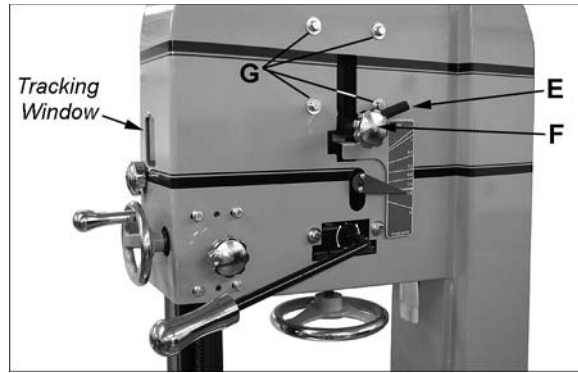

Figure 26
Refer to Figure 26.
4. Set the quick tension lever initially to "Partial Tension-Idle/Tracking" position, as shown in Figure 26.
**IMPORTANT:** Make tracking adjustments with knob (F, Figure 26) while the blade is at full tension. DO NOT use screws (G, Figure 26); these were used by the manufacturer for wheel alignment and should NOT be used for tracking.
6. If the blade tends to move toward the edge of the wheel, loosen locking lever (E, Figure 26) and slightly rotate tracking knob (F) with your right hand while continuing to rotate the wheel with your left. Observe the blade through the tracking window. Rotating the tracking knob clockwise will cause the blade to move toward the rear edge of the wheel. Rotating the tracking knob counterclockwise will cause the blade to move toward the front edge of the wheel.
7. When the blade is tracking in the center of the wheel, re-tighten locking lever (E), and close upper door.